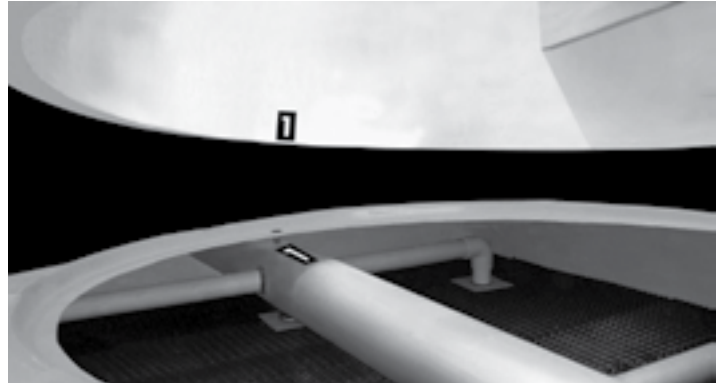
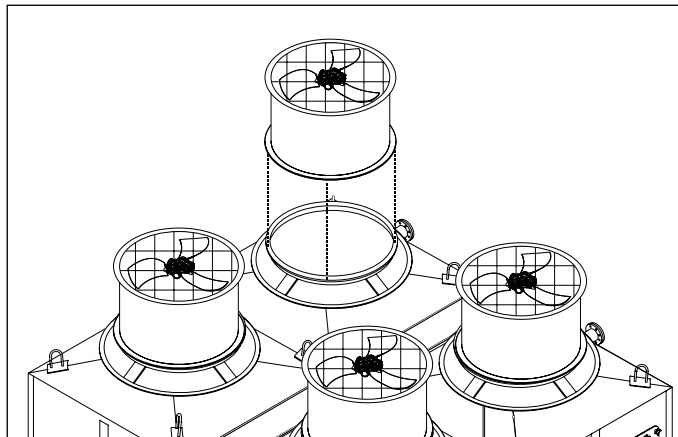

Figure A-129: Fan Duct alignment
Figure A-130: Fan Duct installation on a fan adaptor
- D. If there is more than one fan, follow the same instructions from previous step to install remaining Fan Ducts (see an example in Figure A-130). Each fan duct is labeled with a number on the inside of the lower edge; for a correct installation, this number must match the number on the corresponding fan adaptor (see Figure A-129).